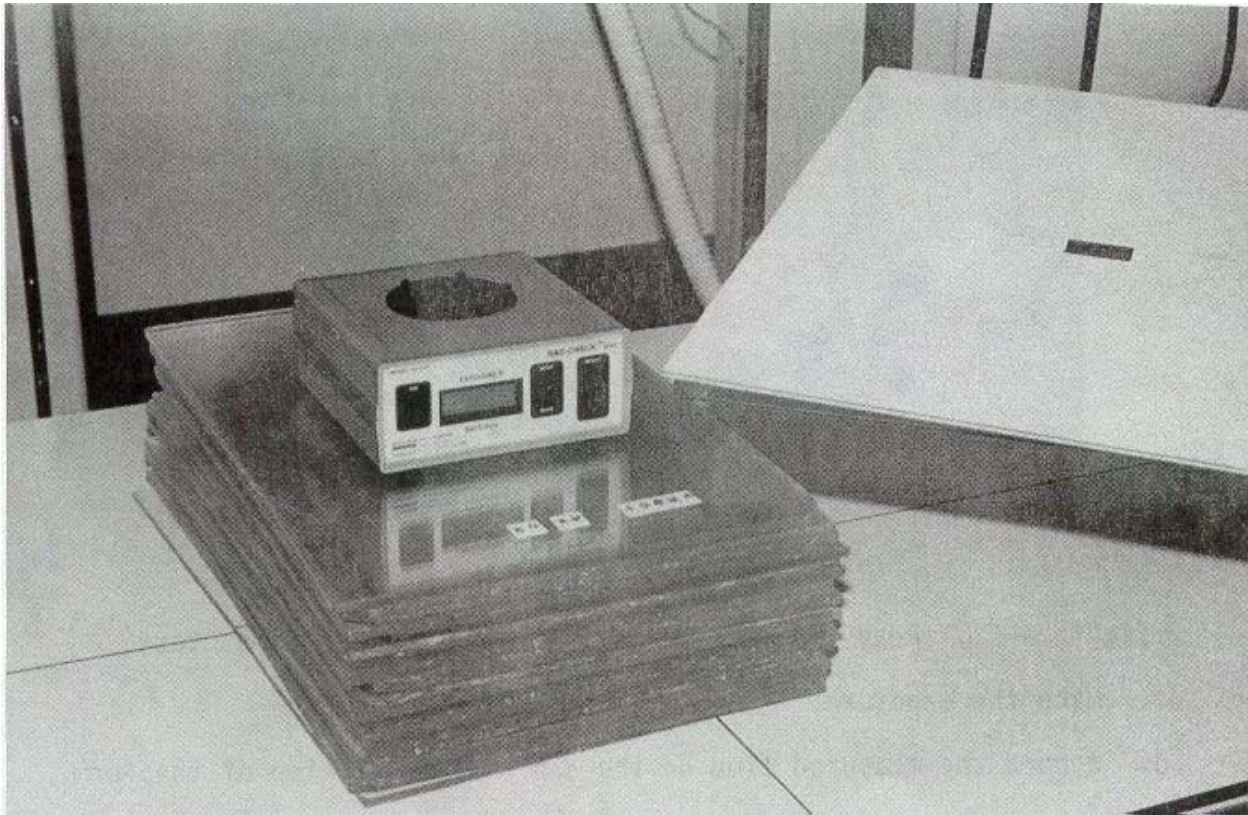

Figure 4-31. Reset to reproducibility test set up preparing to place lead blocker over the dosimeter.
- a. Reset the phantom, machine factors, and AET used in the reproducibility test (see figure 4-31).